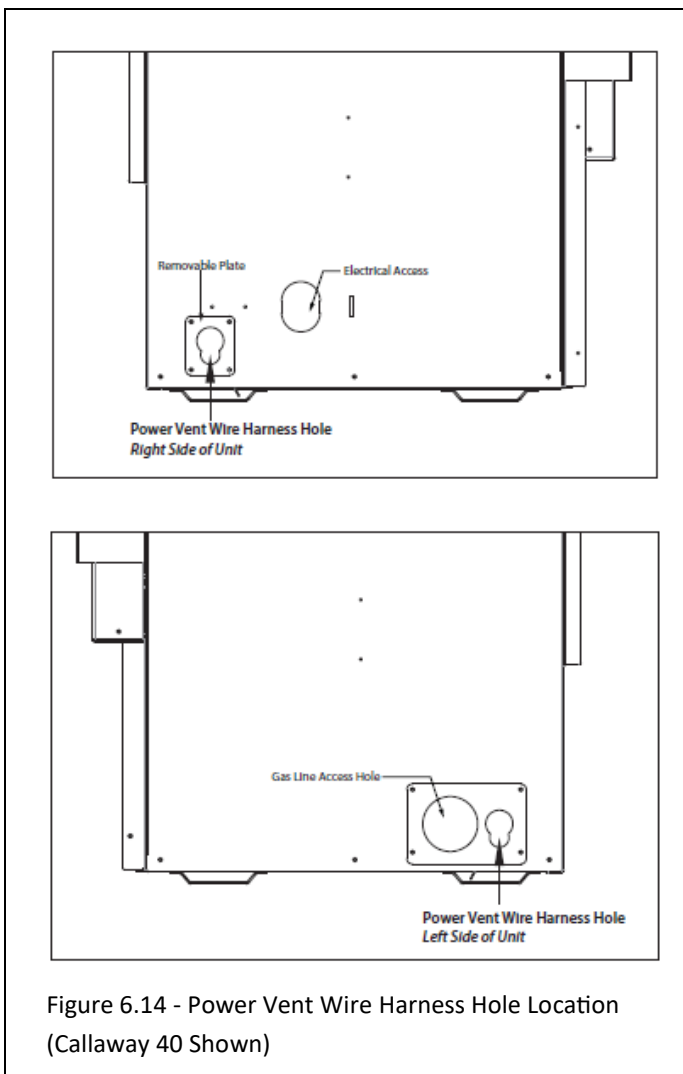

Figure 6.14 - Power Vent Wire Harness Hole Location (Callaway 40 Shown)
3. Next we are wiring the other end of the wire harness to the fireplace. Locate the power vent wire harness hole(s) on the fireplace. Your model may have one hole on one side of the fireplace, or one hole on either side of the fireplace. Plan accordingly when ordering your KPV wire harness. The power vent wire harness holes are located on a removable plate. Remove screws that attach the plate to the outer shell for easier access. Reattach the plate when finished. See Figure 6.14.